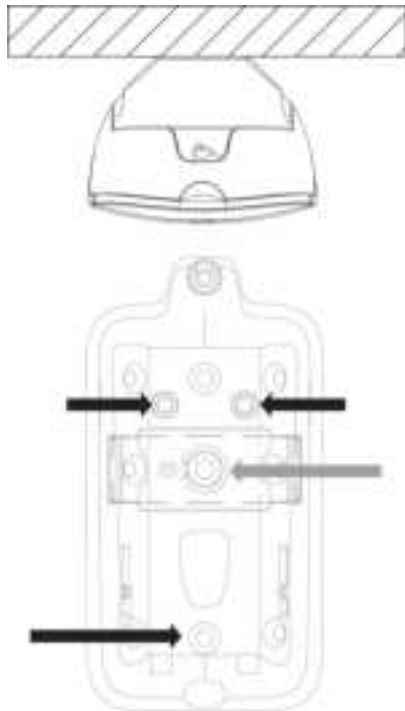

Figure 4 Wallmount configuration
- To mount on the wall, see Figure 4.